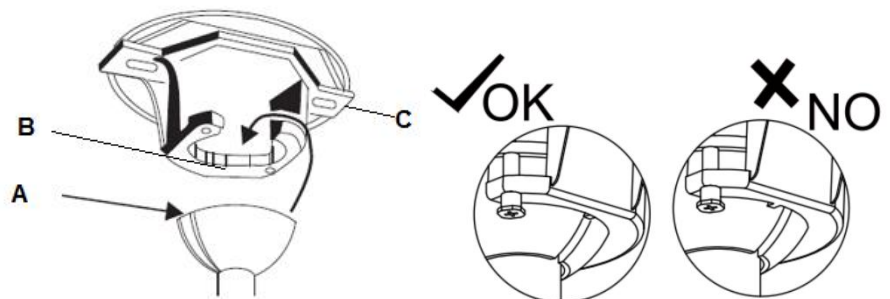

Fig. 8
Lift the fan assembly onto the mounting bracket. Ensure the key slot (A) of the hanger ball is positioned on the key pin (B) of the mounting bracket (C) to prevent the fan from rotating when in operation. **Fig.8**